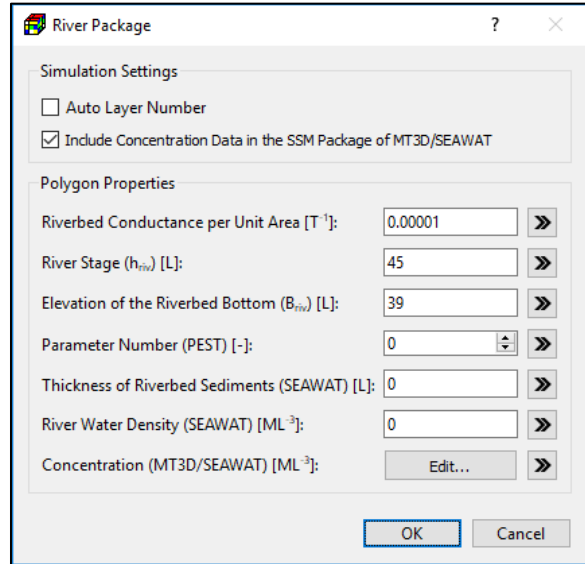

Figure 84. The River Package dialog box for specifying polygon properties
4. **Polygon input method:** Figure 84 shows a dialog box for specify the following data to a polygon. These data may be applied to model cells following the rules described in Section 3.4.2.3 and additional rules below.